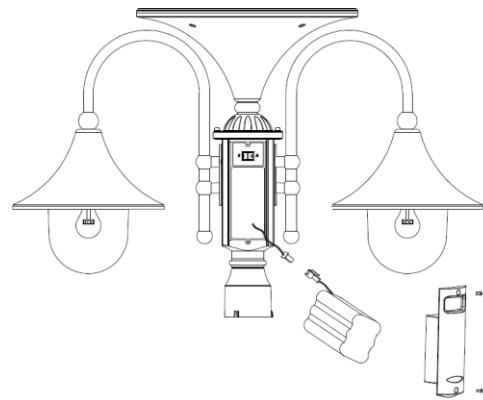

Fig. 4
1. Remove the two screws holding the battery compartment lid. **(Fig. 4)**